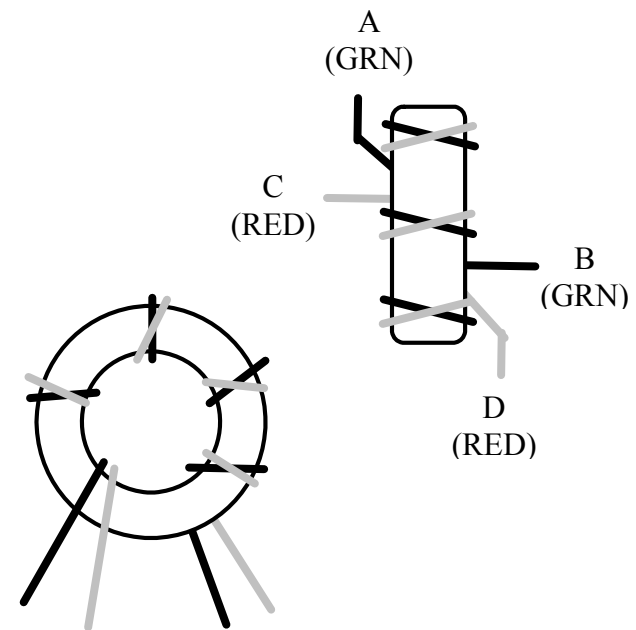

Figure 6-27
- Wind the twisted wires onto a 1/2" (12.7 mm) dia. ferrite core (FT50-43), using exactly 5 turns and covering about 85% of the core. Figure 6-27 shows how the winding should look. The leads of T3 are labeled with letters A through D on the PC board to avoid confusing them with the numbered leads of T2 and T4.
- Separate T3's leads as shown in Figure 6-27. Strip and tin the leads, being careful not to let the red/green wire pairs short together.